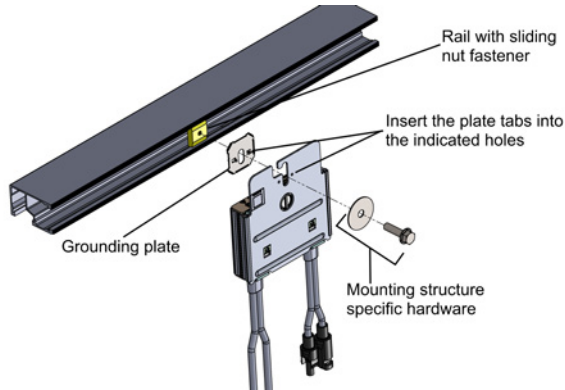

Figure 6: Power optimizer installation and grounding using a grounding plate
- **For mounting on rails with sliding nut fasteners:** If the star washer cannot be used, use the SolarEdge grounding plate (purchased separately) between the railing and the flat side of the mounting bracket. Use mounting specific hardware as needed. Apply torque of 9.5 N*m / 7 lb*ft. See Figure 6